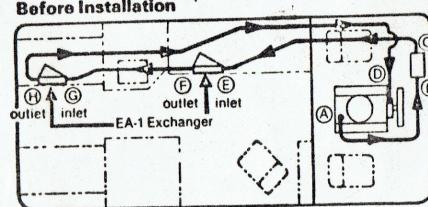

FIG. 2
1. For best heating results, install one (1) EA-1 heat exchanger for each 10 to 11 ft. of total coach length for fully thermostatic operation.
A. Locate exchanger(s) to obtain the most even distribution of heat (see fig. 2). Ideal location is in the top space beneath a seat or cabinet. BE SURE THE AIR INTAKE IS NOT BLOCKED OR STARVED. DO NOT MOUNT OUTSIDE OR UNDER THE VEHICLE.
B. Position exchangers for shortest possible hose routing that avoids kinks or sharp bends. The exchanger fitting CLOSEST TO VEHICLE FLOOR IS INLET (connects by hose to existing heater outlet as shown at "C" in fig. 2). The OUTLET fitting on the other end of the exchanger will then be higher (farthest from floor). This connects by hose to the next heat exchanger (or returns to vehicle's engine at "D" in fig. 2). Exchangers (s) may be positioned in any attitude as long as the *lowest* fitting is the water *inlet*.
4. Connect hose and clamps (see specified types below) to exchanger(s) before disconnecting and discarding the existing hose between "C" and "D" in fig. 2. USE EXTREME CARE WHEN ATTACHING HOSES TO EXCHANGER INLET AND OUTLET NIPPLES — TWISTING OR BENDING WILL BREAK THE SOLDER CONNECTIONS AND CAUSE LEAKS. BE SURE THAT HOSE PASSING THROUGH PANELS OR FIREWALL ARE NOT SUBJECT TO CHAFING OR CUTTING. DO NOT ALLOW HOSE TO LAY AGAINST HOT ENGINE BLOCK OR EXHAUST PIPES.